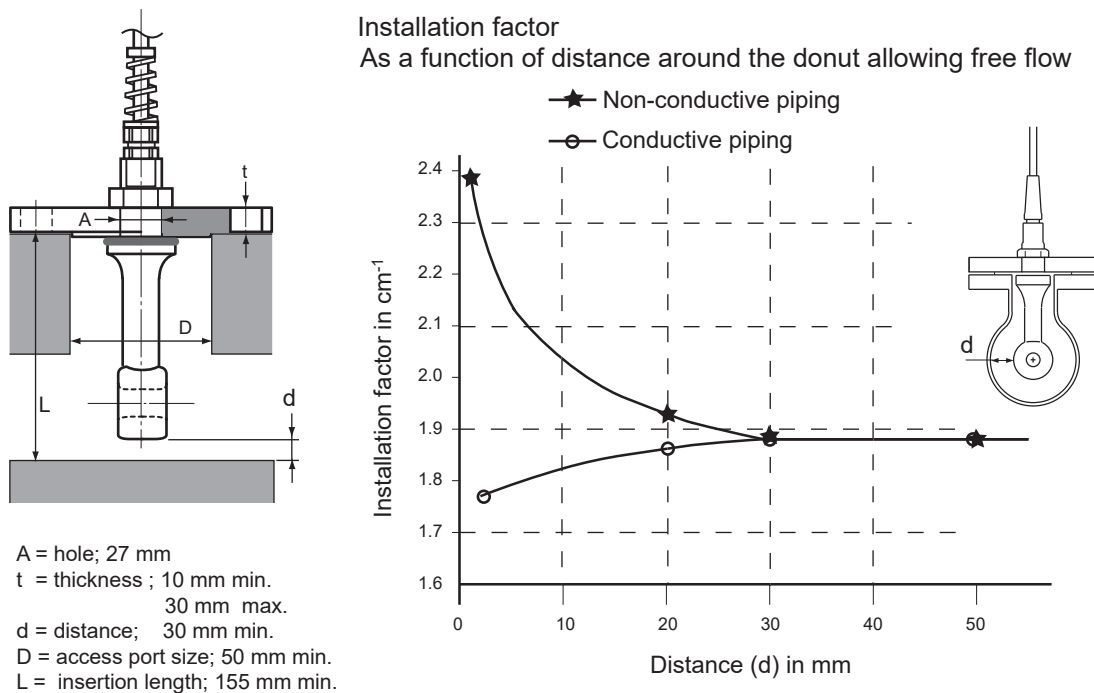

Figure 3.3 Example of Flange or Pipe Mounting, Installation Factor
The distance (d) between the sensor and the pipe wall should be more than 30 mm (refer to Figure 3.3).
- When a sensor is installed in long piping with a distance (d) between the sensor and piping, as shown in Figure 3.3:
The installation factor for pipe mounting (reference data when the nominal value is 1.88 cm⁻¹) is shown in Figure 3.3. Divide the value indicated on the label of the sensor cable by 1.88 and then multiply the quotient by the value obtained from Figure 3.3. Enter the result to the transmitter/converter (For details, refer to relevant instruction manual).